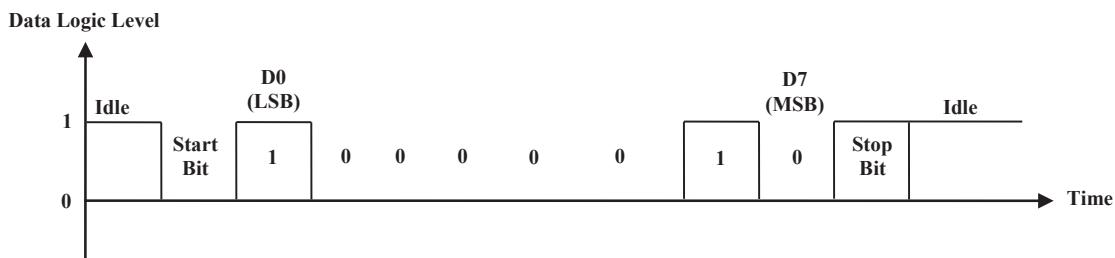

Figure 8.4 – Framing ASCII 'A' with one start bit and one stop bit
- For instance, the ASCII 'A' or 0x41 or 0b01000001 can be framed in the following way shown in Figure 8.4 below.